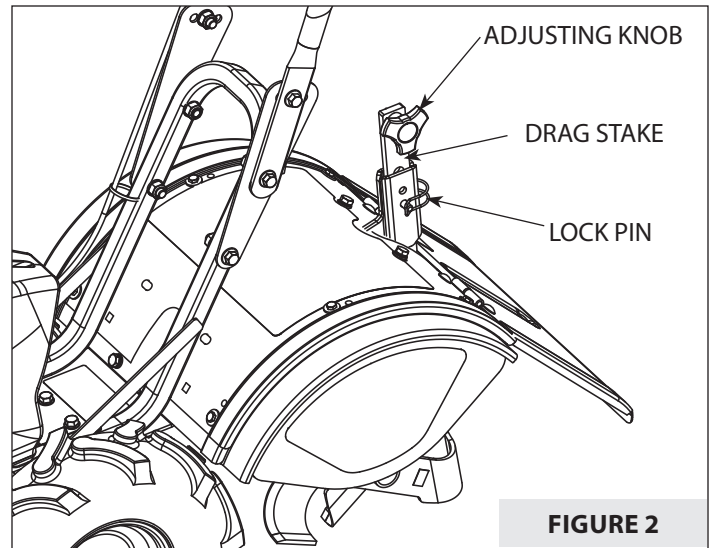

FIGURE 2
3. Locate the drag stake and (I) lockpin. Unscrew the adjusting knob from the top of the drag stake and slide the drag stake upwards into the vertical slot at the rear of the tine shield. **SEE FIGURE 2.**
5. Insert the lockpin through the hole in the vertical slot and one of the holes in the drag stake to hold it into place. **SEE FIGURE 2.**